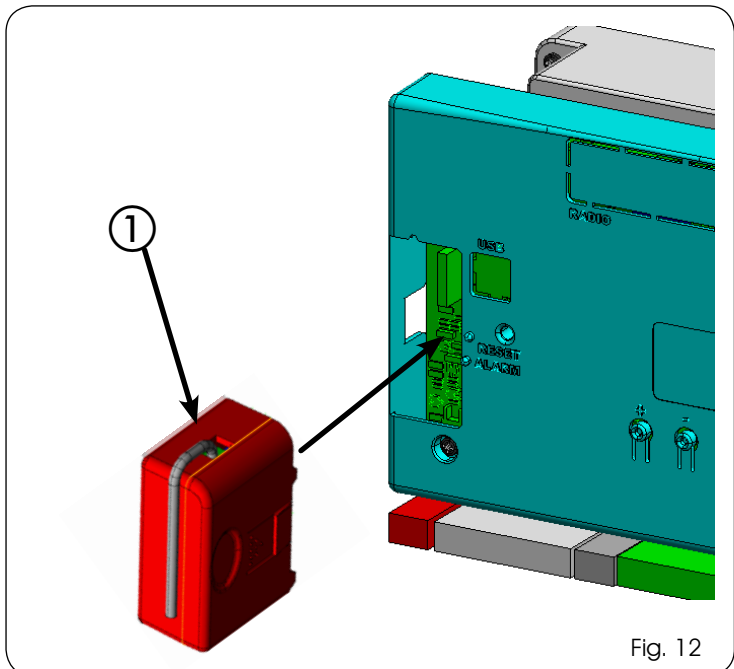

Fig. 12
The control unit has an integrated 2-channel decoding system (DS, SLH, LC/RC) named OMNIDEC. This system makes it possible to save – through an extra receiver module – XF433 or XF868 (Fig.12 ref.①) – radio commands of the same frequency, but of a different type (DS, SLH, LC/RC). It is possible to save both total opening (OPEN A) and partial opening (OPEN B) of the automated system, up to a maximum of 256 channels.